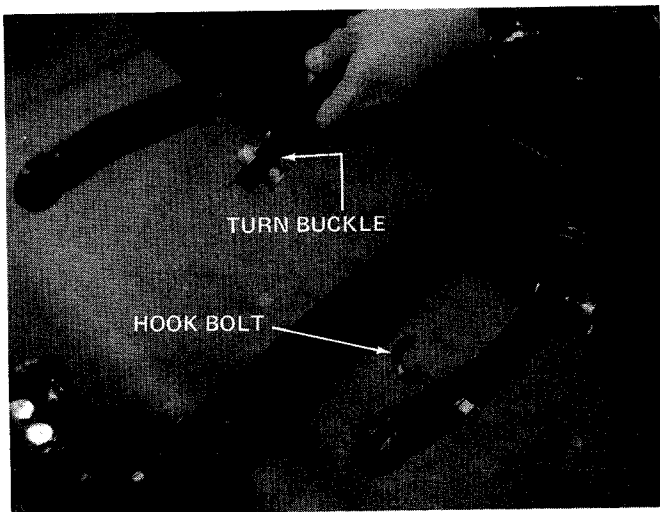

FIGURE 17
- Remove the turn buckle from tractor. Remove the chains and hook bolts from three point hitch. See figure 17.